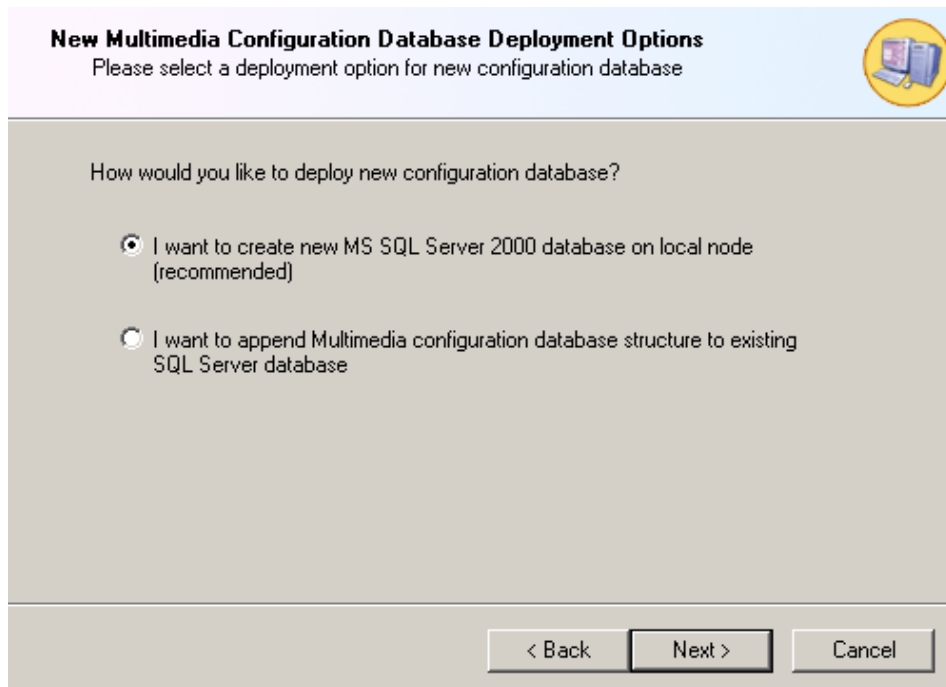

Figure 1.31. Creating a New Microsoft SQL Server Database
4. This opens the Configuration Database Wizard (refer to the section above). Run the Wizard to create a new SQL Server database. Select **I want to create a new Microsoft SQL Server database on local node**, as shown in **Figure 1.31**, and then click the **Next** button to continue.